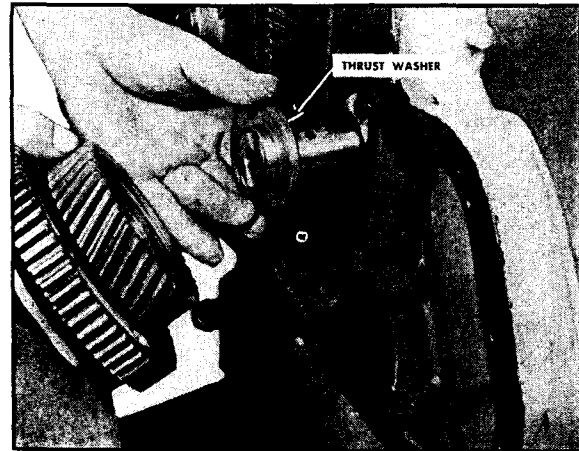

Fig. 12-34. Installing thrust washer and idler gear assembly
1. Install the inner thrust washer and place the supercharger idler and driven combination gear over the idler pin. Fig. 12-34.